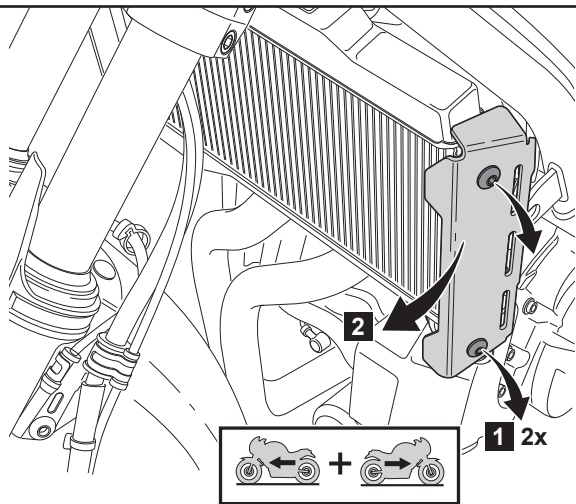

Fig. 2
- 3** Remove the 2 retaining screws from the radiator side cover mount (see Fig. 2).